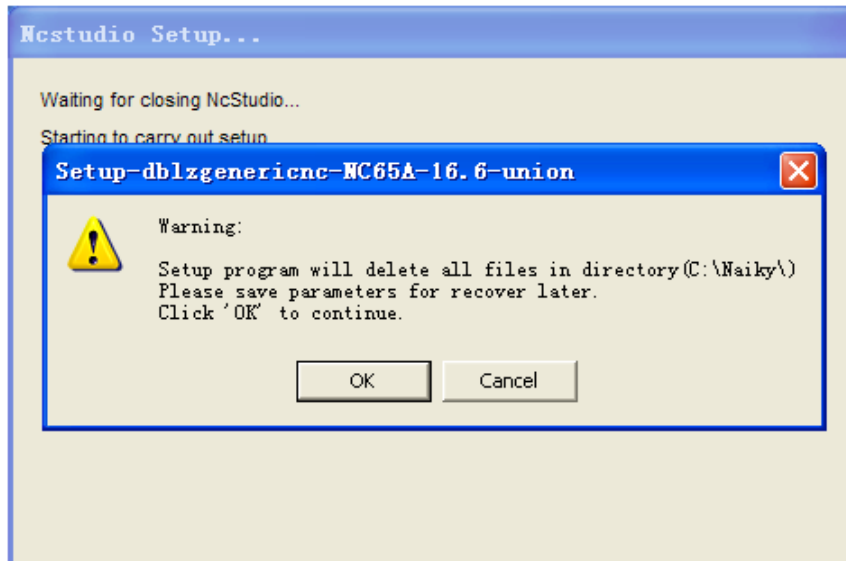

Fig. 7-3 Prompt to save parameters
- 3) If there is an old version of NcStudio in the system, the installation package will delete the old files and give a prompt, as shown in Fig. 7-3. If “OK” is selected, the setup will continue. Otherwise, the setup will exit.